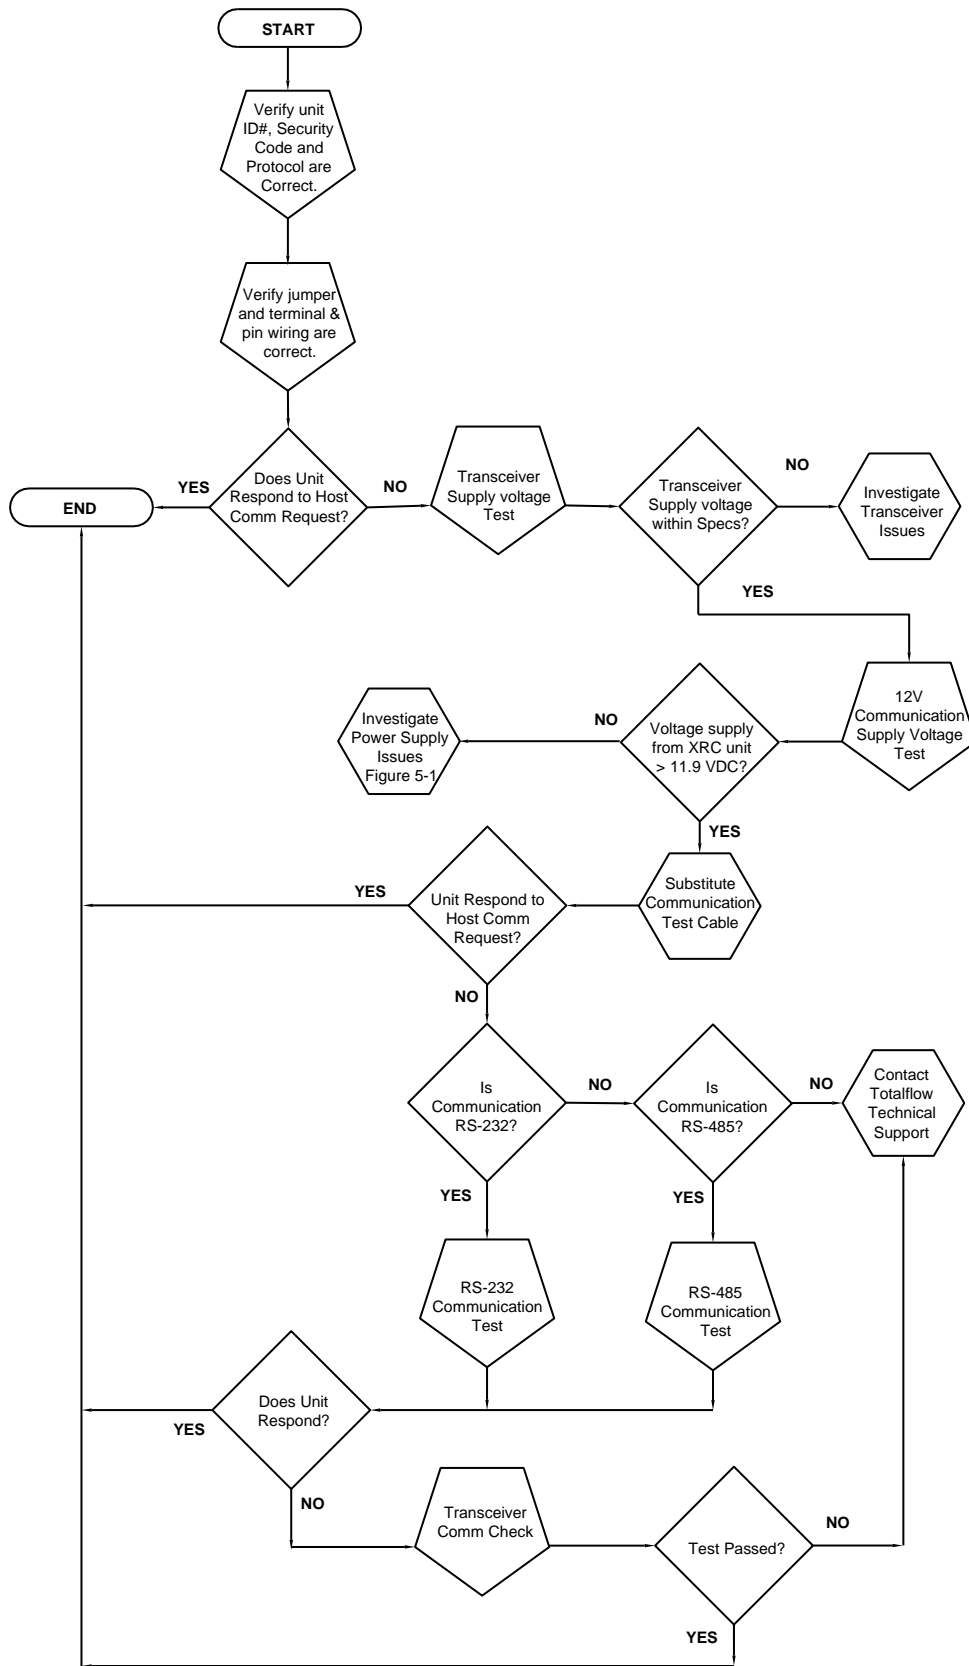

Figure 102: Communication Troubleshooting Flow Chart
These troubleshooting procedures are applicable to all XSeries Flow Computers with an installed radio. Use Figure 102: as an aid for troubleshooting communication problems. The three basic types of radio communications that can be used are:
The following test procedure is directed from Figure 102: and will assist the user in what may be the possible cause for an indicated error message.
**IMPORTANT NOTE:** When the unit is transmitting to host, voltage should vary between -5 Vdc and +5Vdc. This would indicate that the unit is transmitting data. If unit is still not responding, continue to next test as directed in Figure 102:
The following RS-485 Serial Communication Test procedure is directed from Figure 102: and will assist the user in what may be the possible cause for indicated error message.